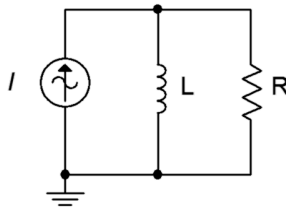

Figure 3.21
34. For the network shown in Figure 3.21, determine a value of L such that the impedance magnitude of the circuit is $200\ \Omega$. The source is a 60 Hz sine and R is $680\ \Omega$.
36. For the circuit shown in Figure 3.21, determine a value for L such that the magnitude of the circuit voltage is 50 volts. The source current is a 2.3 A 60 Hz sine and $R = 330\ \Omega$.